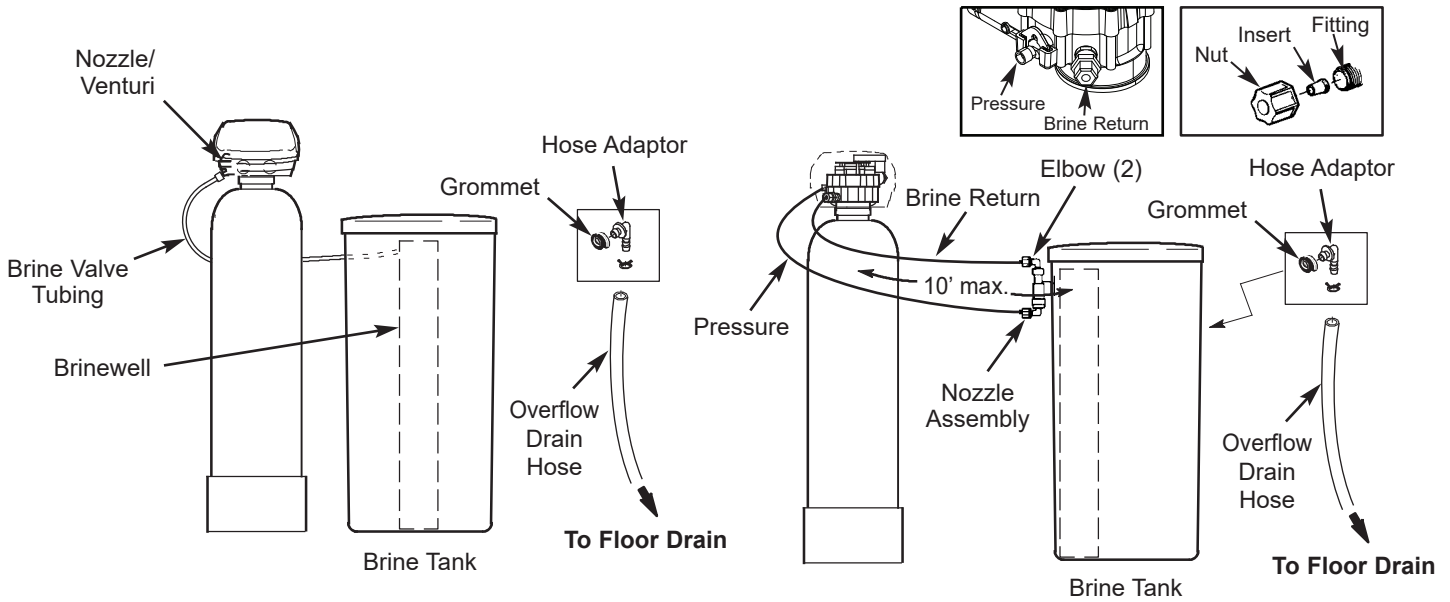

FIG. 7
2. **Softener Models: Move the brine tank assembly into position** nearby the resin tank. Enough tubing is included to allow locating the tank up to 10 feet away from the resin tank (Figure 7).
- Route the tubing attached to the brine valve assembly out of the brine tank through the hole in the brine tank sidewall (Figure 7). Use the slot in the brinewell to hold tubing in place.
- Install two elbows (in separate parts bag with the brine tank) into the top and bottom of the nozzle assembly (Figure 7).